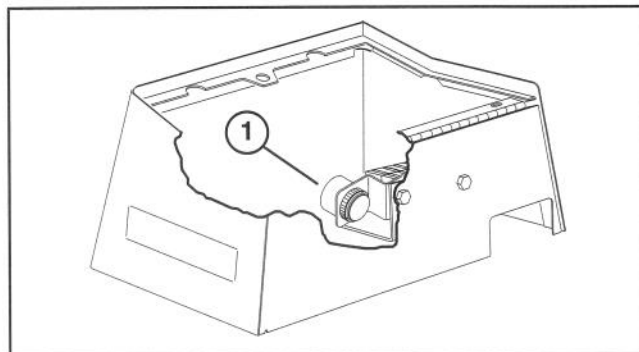

Figure 27
- When machine is started, the alarm (Fig. 27) will give one short beep to indicate that everything is operating properly. If the alarm makes no noise at all, it should be checked by a mechanic.